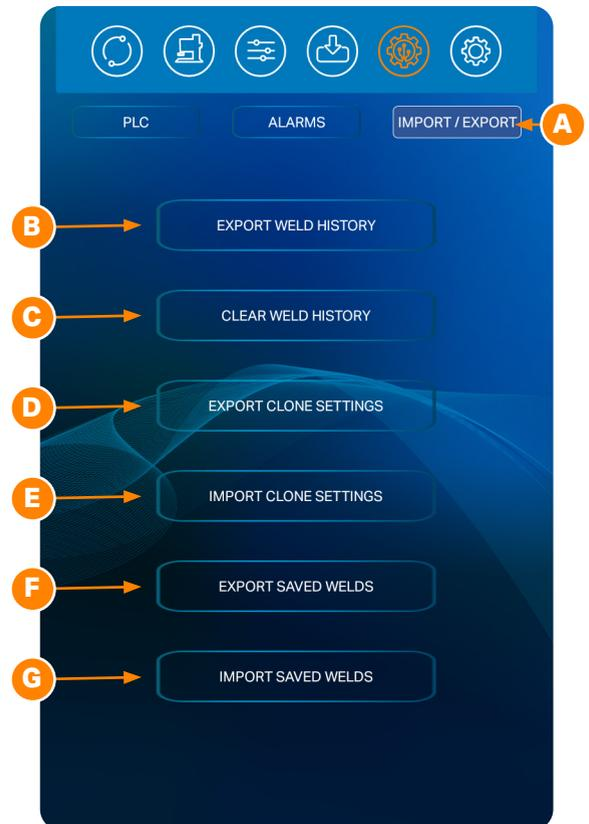

Figure 27.1. The Pico alarms control panel will display certain power supply statuses, active warnings, active alarms, and other alarm-related settings.
The Pico allows you to import or export weld schedules. In the Communications Screen, press the Import/Export Tab (A) to get started. The Import/Export control panel contains six weld schedule features to help you manage this helpful feature. See Figure. 27.1.